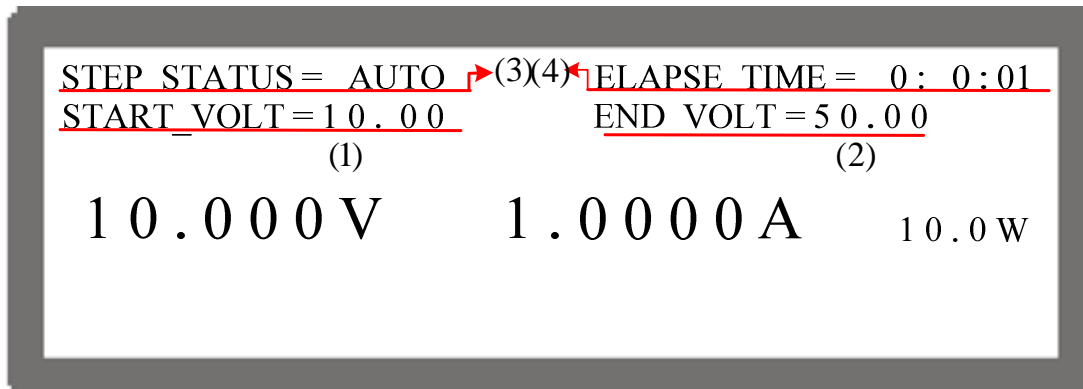

Figure 4-24
When executing V_STEP MODE, its main screen is as shown in Figure 4-24. The following explains the meaning of (1)~(4) in Figure 4-24.